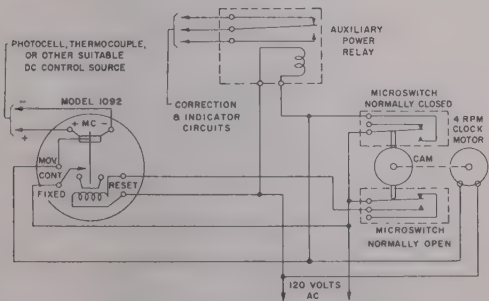

Figure 12. Sensing Control Circuit
2. Sensing Control Circuit (See Figure 12).